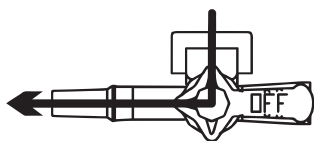
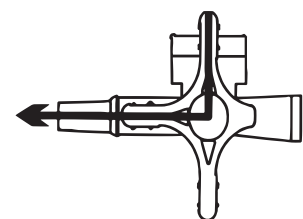

Figure 9
Figure 13
2. Turn tap OFF to the transducer position (Figure 9 or Figure 13).